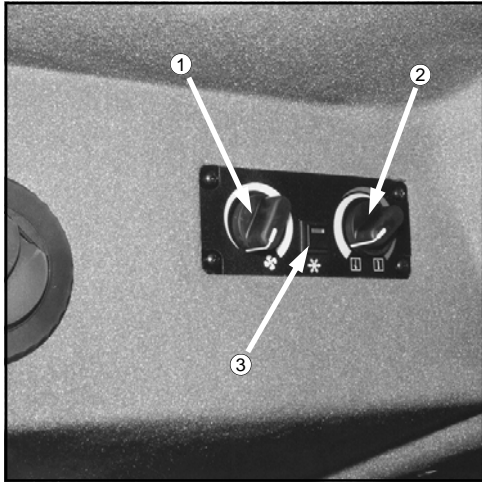

FIG 5.67
ADJUSTING FAN BLOWER SPEED - Fan blower speed is controlled by the left rotary dial on the cab climate control panel (fig. 5.67, item 1). The fan blower speed is a continuously variable adjustment. To increase fan speed, rotate fan blower dial clockwise. To reduce fan speed, rotate fan blower dial counterclockwise. To shut fan blower off, rotate fan blower dial all the way counterclockwise.
ADJUSTING TEMPERATURE SETTING - Forced air temperature adjustments are controlled by the right rotary dial on the cab climate control panel (fig. 5.67, item 2). Temperature control is a continuously variable adjustment. To increase forced air temperature, rotate temperature dial clockwise. To decrease forced air temperature, rotate temperature dial counterclockwise.
OPERATING AIR CONDITIONING - To activate the air conditioner, depress the air conditioning switch (fig. 5.67, item 3). Adjust fan speed and temperature accordingly.